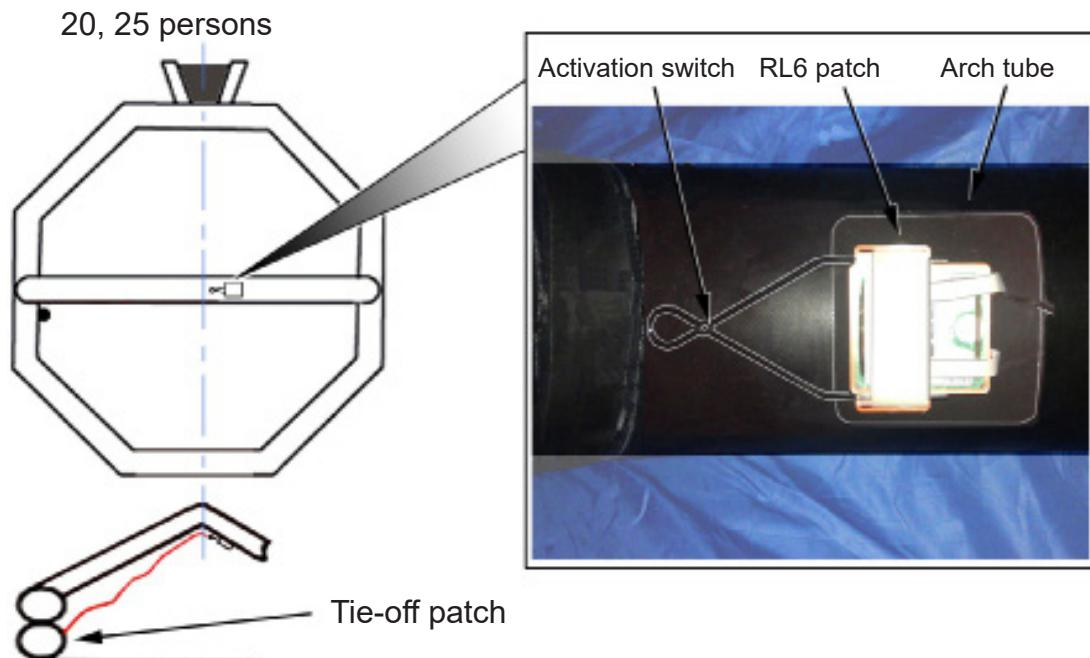

FIGURE 808J
- (b) 20 -25 Persons. Refer to FIGURE 808J:
- (i) If the RL6 internal lighting patch has been incorrectly fitted on the arch tube it will be located as shown in FIGURE 808J.
- (ii) Use the narrow and wide velcro straps to hold the internal lighting unit in place. Refer to FIGURE 808J.